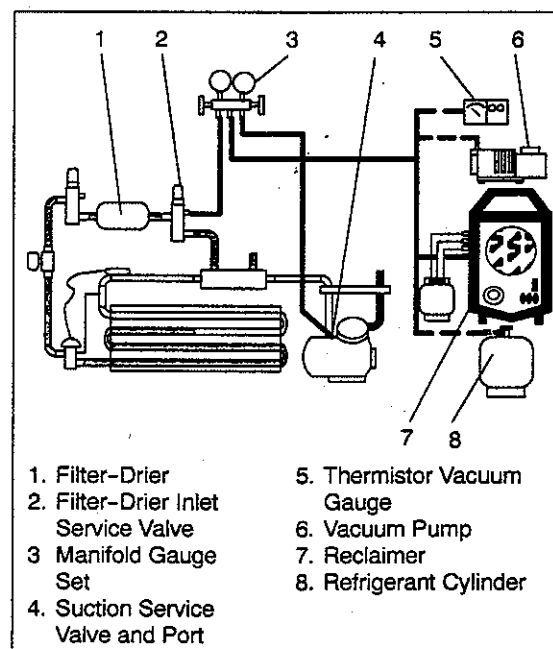

Figure 4-7 System Charge Removal Connections
- a. Connect a manifold gauge set to the system as shown in *Figure 4-7*.
- b. The recommended method is connecting lines (refrigerant hoses designed for vacuum service) as shown in *Figure 4-7*.
- a. Install manifold gauge set at the compressor suction service valve and filter-drier inlet service valve. See *Figure 4-7*.